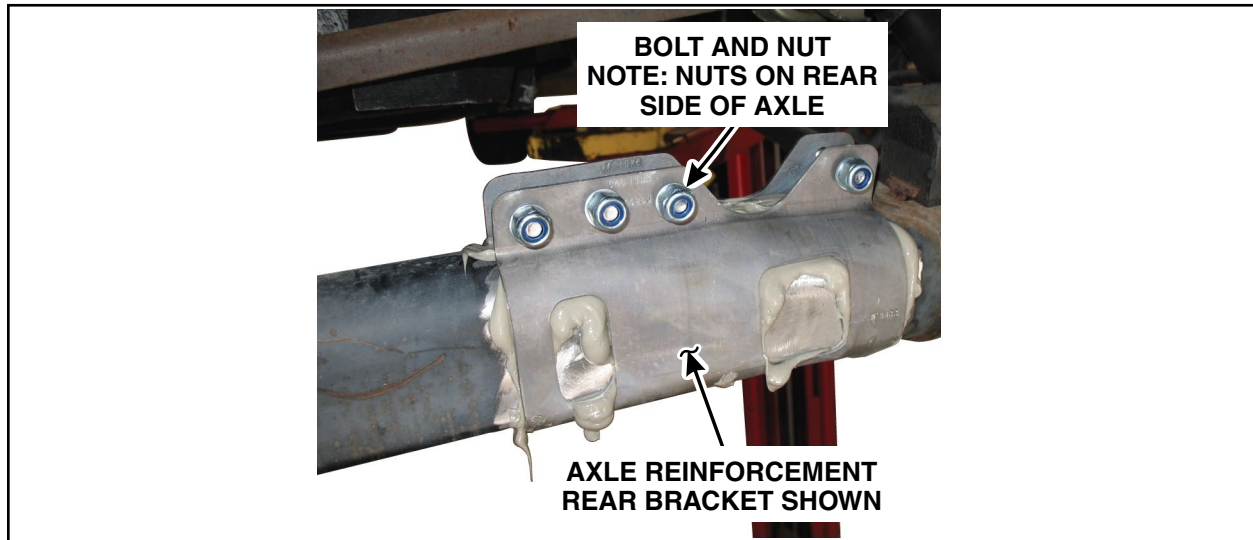

FIGURE 10
14. Pinch the axle reinforcement bracket flanges together and insert bolts from the front, pointing away from the fuel tank. Finger tighten nuts. See Figure 10.